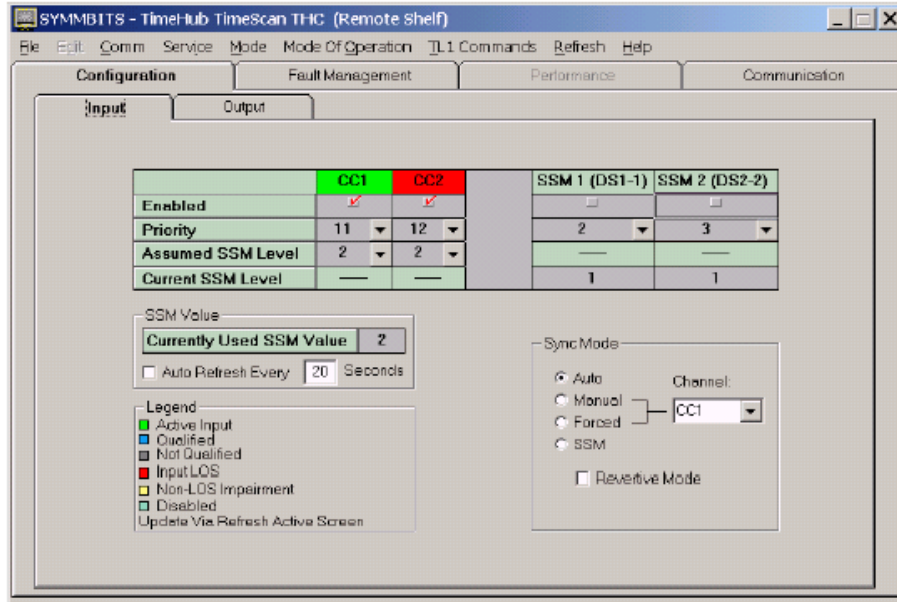

Figure 4-14. The Remote Input Configuration Window
1. Select the **Configuration, Input** tab. The **Input Configuration** screen appears, as shown in Figure 4-14.